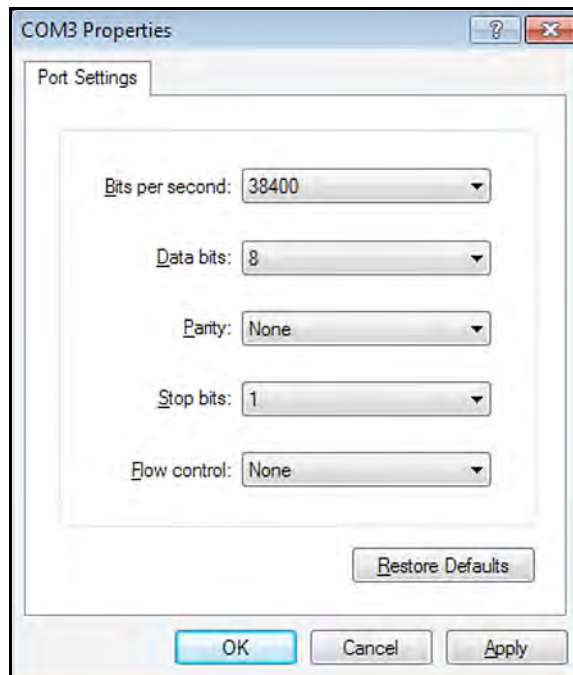

Figure 7: COM Properties
2. Start *HyperTerminal* and set up the communication link to match the Com port and RS232 settings of the PT878 (see *Figure 7* below).